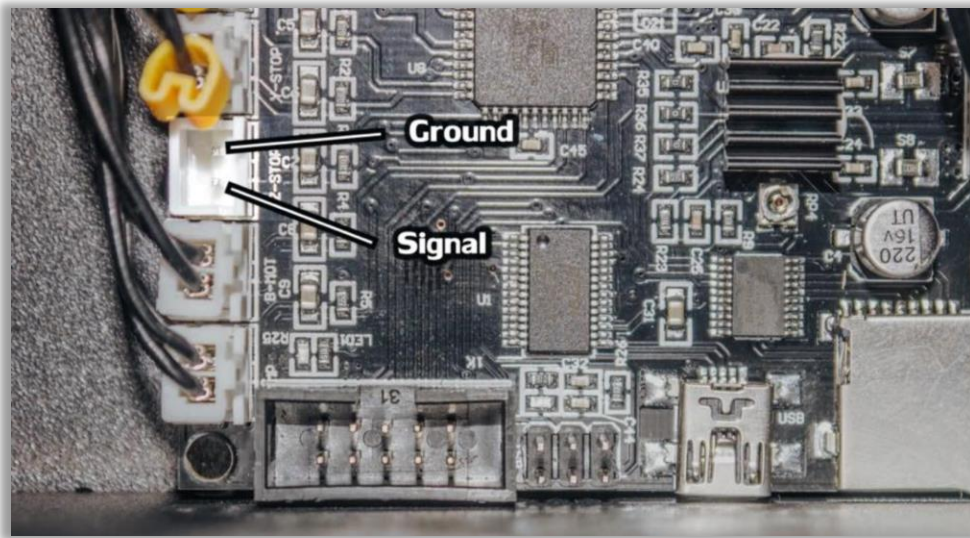

Figure 7: Z-Stop Polarity
1. When looking at the BLTouch sensor, you may notice that there are 5 wires. There is one plug with Black/White and another with Brown/Red/Orange. The Black and White Plug simply replaces the ZSTOP XT connector. So unplug Z stop and plug in the Black/White XT connector. Positive and negative can be seen below in Figure 7. On the BLTouch BLACK is GROUND and WHITE is SIGNAL.